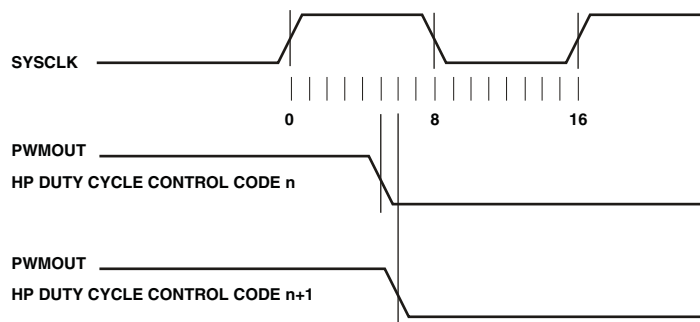
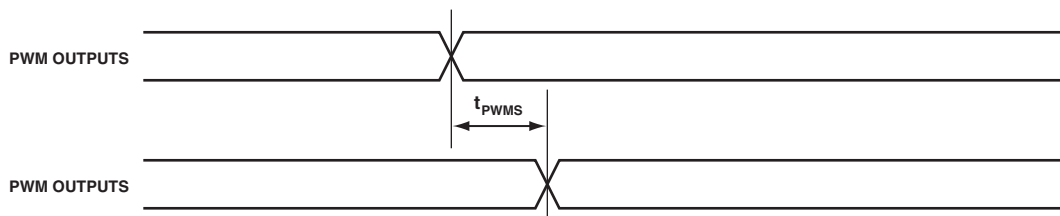

Figure 59. Fractional Duty Cycle Edge Placement (4-Bit Resolution)
Figure 62. PWM HP and MP Modes Timing, Output Skew
Table 88, Table 89, and Figure 59 through Figure 62 describe heightened precision (HP) PWM operations.
²See Figure 59 for an example of 4-bit resolution of fractional duty cycle edge placement.